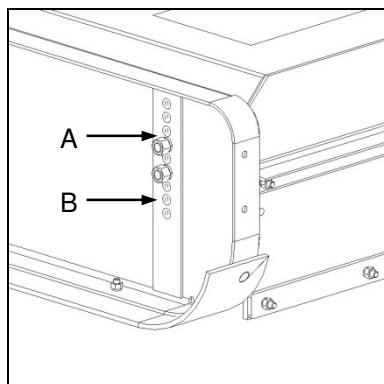

Fig. 3
- ✓ To set working height of the implement, remove the side panel retaining nuts (Fig. 3-A) and relocate the side panel position by selecting an appropriate hole (Fig. 3-B). Ensure the implement is level by selecting similar hole positions at each adjustment point.
- ✓ Om die werkshoogte van die implement te stel, verwander die sypaneel klemmoere (Fig. 3-A) en verskuif die sypaneel posisie deur die geskikte gat posisie te kies (Fig. 3-B). Maak seker dat die implement gelyk is deur soortgelyke gat posisies by elke verstelpunt te kies.